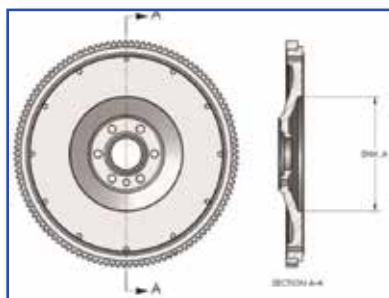

Fig. 1
Measure the flywheel bore to determine if you have the correct clutch for your application (Fig. 1). This dimension will be 7", 8.5", or 10".
6. Verify disc fits in flywheel bore (Fig. 1). Slide disc the length of the input shaft checking for twist and wear. Insert alignment shaft through bearing housing. Install rear disc (oriented correctly), center plate, and front disc (oriented correctly) on alignment shaft. Move clutch housing towards flywheel making sure cover fits into flywheel pilot.